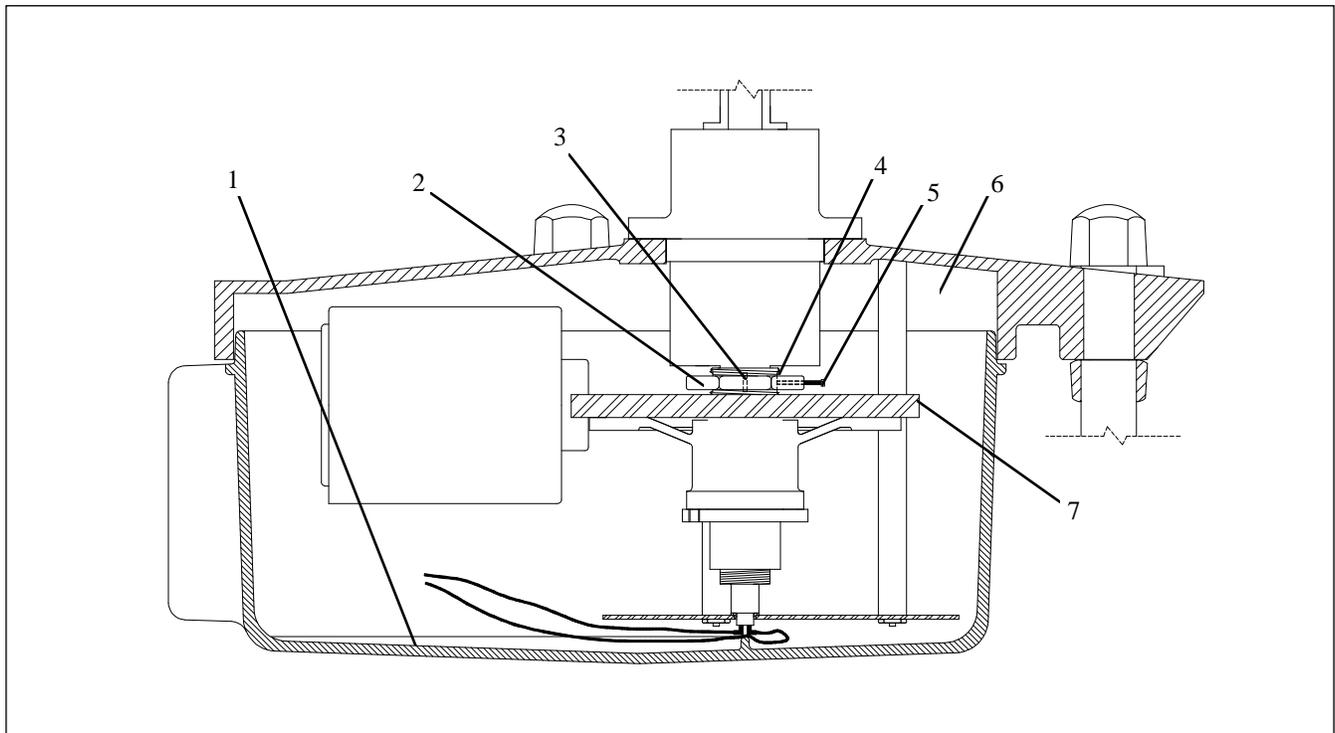

Figure 5. Slip Clutch Adjustment
1. See Figure 5. De-energize the beacon and then remove the lower pan (1) from the beacon.